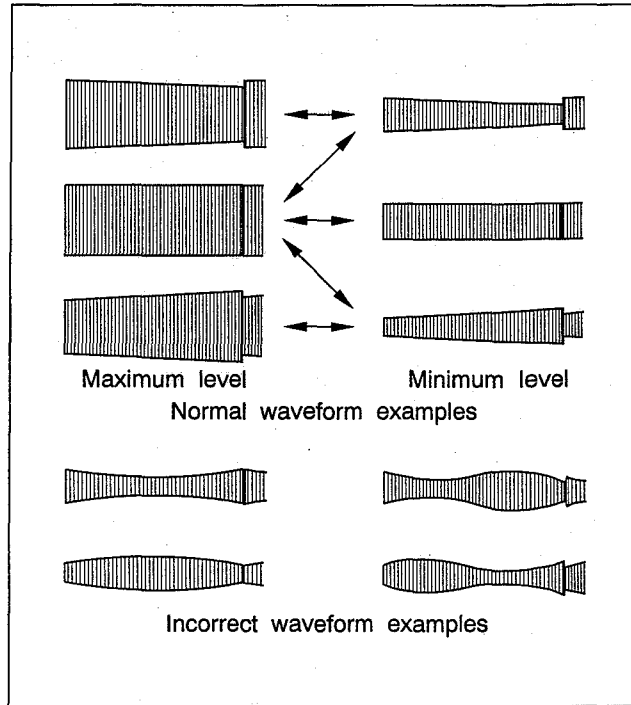

Fig. 2-7-1
- (1) Connect the oscilloscope to TP6(PB FM) on the PRE/REC board.Use TP11(D.FF) on the PRE/REC board as a trigger.
- (2) Playback the SP stairstep portion of the alignment tape [MHP].Confirm that the FM waveform appears as indicated in Fig.2-7-1.
- (3) Set the manual tracking position by simultaneously pressing the CH "-" and "+" buttons.
- (4) Operate the tracking adjustment (press the CH buttons during playback) and set for maximum playback FM waveform.
- (5) By operating the CH button, vary the FM waveform from maximum to minimum and vice versa to confirm that the waveform varies nearly in a flat shape as shown in Fig.2-7-1.